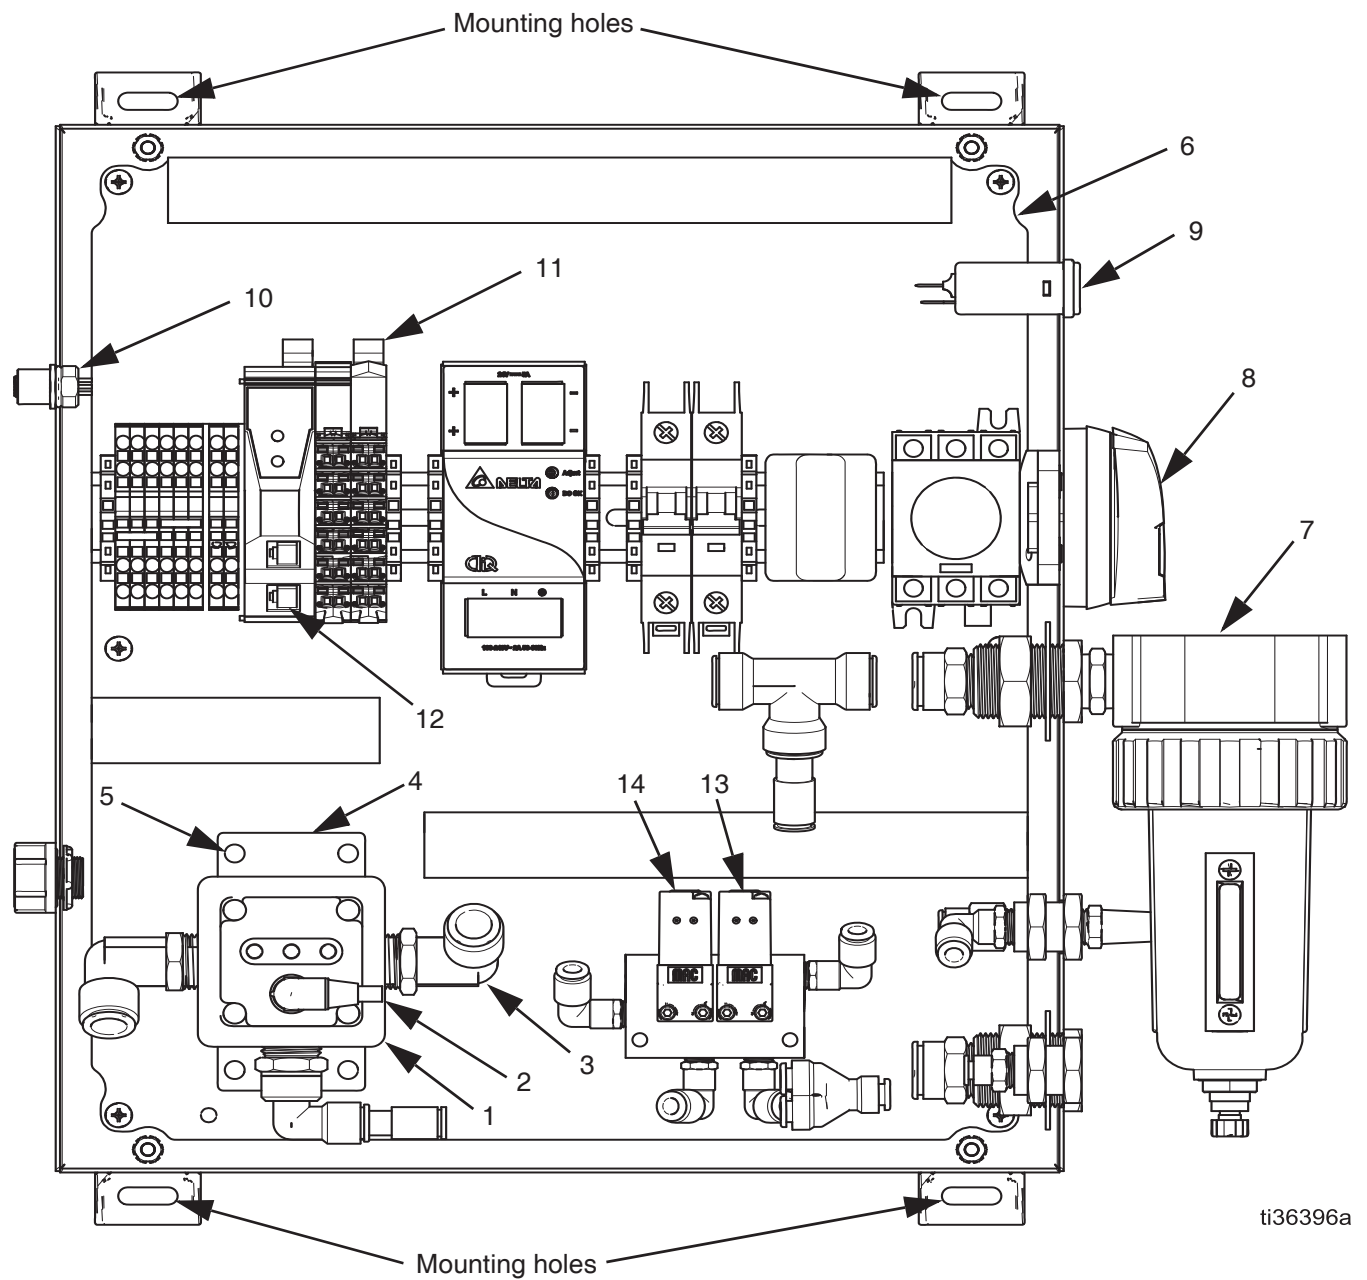

FIG. 2: Enclosure Components
2. Turn the disconnect switch (8) to the OFF position. (See FIG. 2 on page 9.)